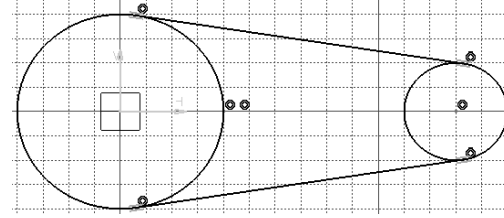

Figure 3-54 The sketch after drawing the second tangent line
10. Similarly, draw a tangent line on the lower side of the sketch by selecting the fourth quadrants of the first and second circles. Figure 3-54 shows the sketch after drawing both the tangent lines.